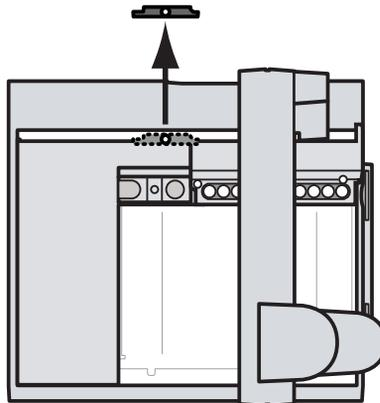

Figure 9 Removing the two plastic shipping clamp pieces
- 6 Remove the two plastic shipping clamp pieces from the sample tray and discard (Figure 9)